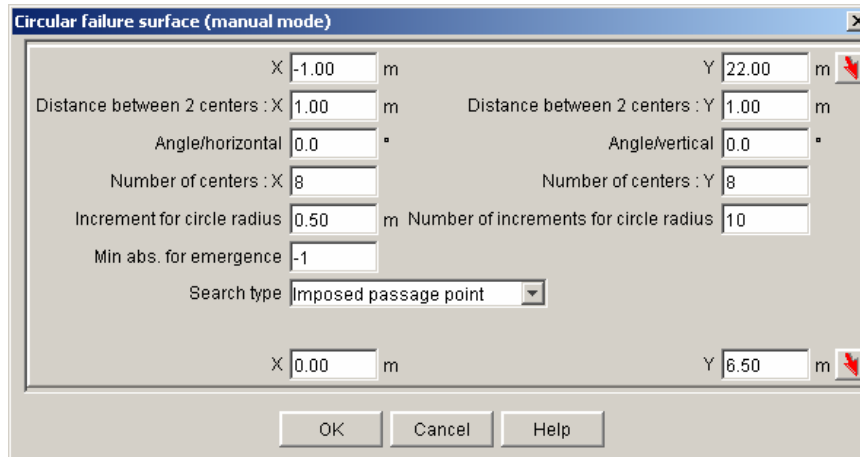

Figure 30: definition of failure surfaces for situation 2 of the 1st stage
- When clicking on the button “Define surfaces”, the dialogue box of Figure 30 is displayed. Fill in the settings with the values indicated on this figure (this will allow for a more accurate scan of the circles around the minimum safety factor located with the automatic search of situation 1).